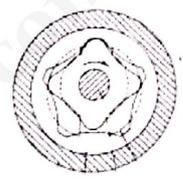

Figure 4
7. Identify the type of oil pump in figure 4 below